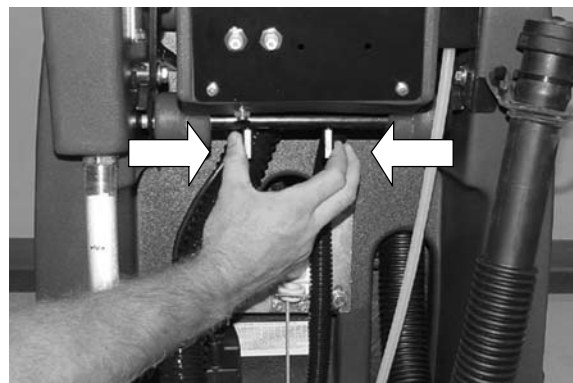

FIG. 14
1. Adjust control grips to a comfortable operating height, squeeze together the two levers below the console (Figure 14).